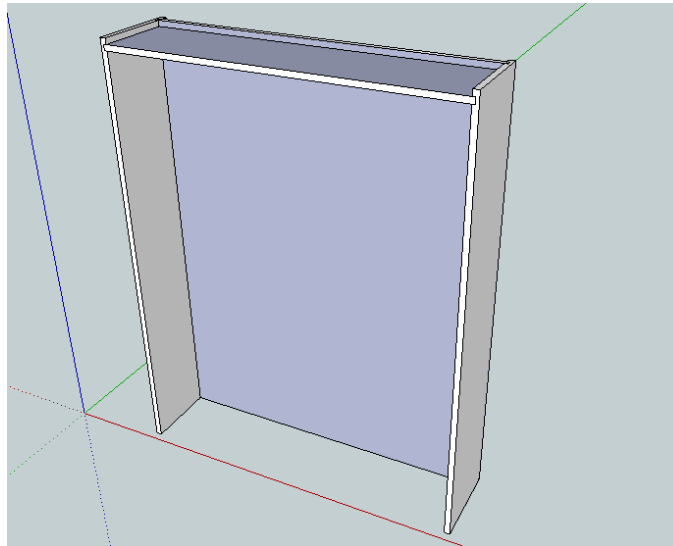

Figure 24: Top Cabinet with Sides, Back and Top
8. The Top Cabinet Top gets added with glue and nails. Make sure to flush the front edge of the top with the sides. See Figure 24.